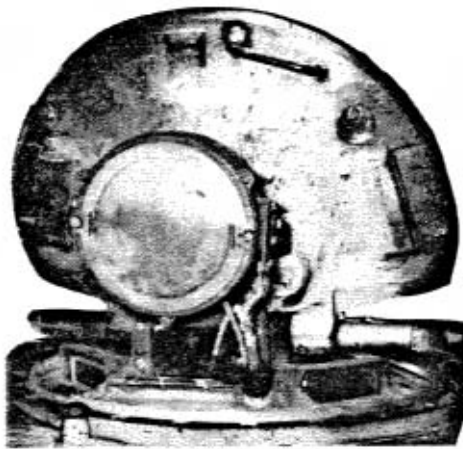

FIG. 3-6. LIGHT WITH COVER
d. Tank Commander's Searchlight, OU-3GK (Figs. 3-6, 3-7). Mounted coaxially with the Tank Commander's sight, TKN-3, is a searchlight, OU-3GK. This light has visible and infrared capabilities by changing filters. The filter of the searchlight is protected by a metal cover whenever the searchlight is not being used.